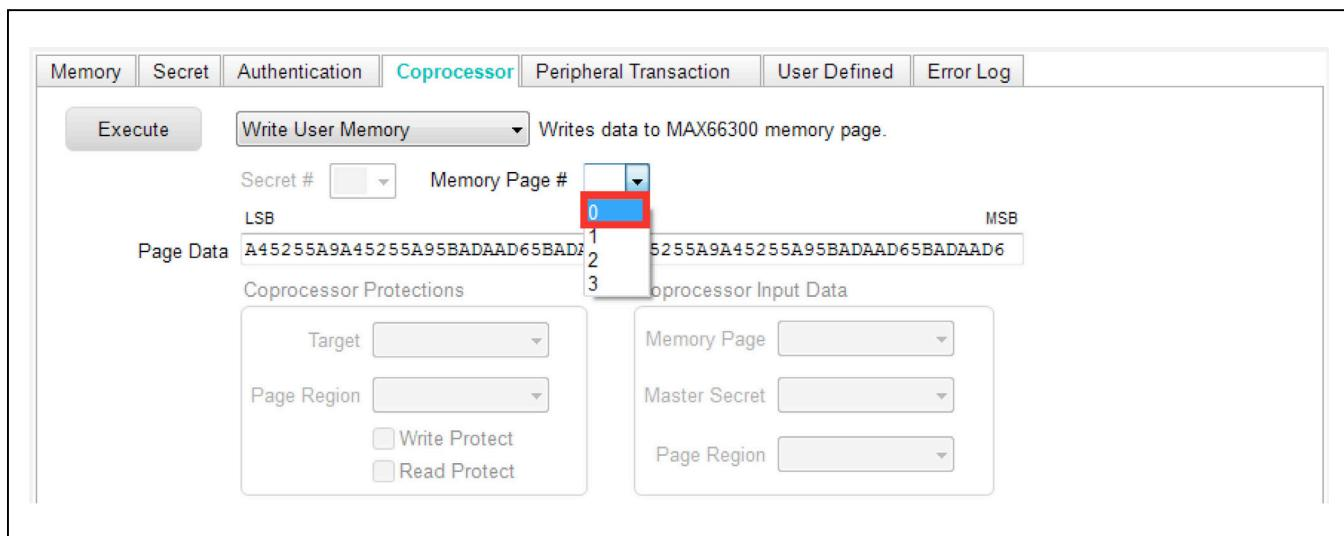

Figure 22. Select Memory Page #
- 18) From the **Memory Page #** drop-down box select '0' (Figure 22).